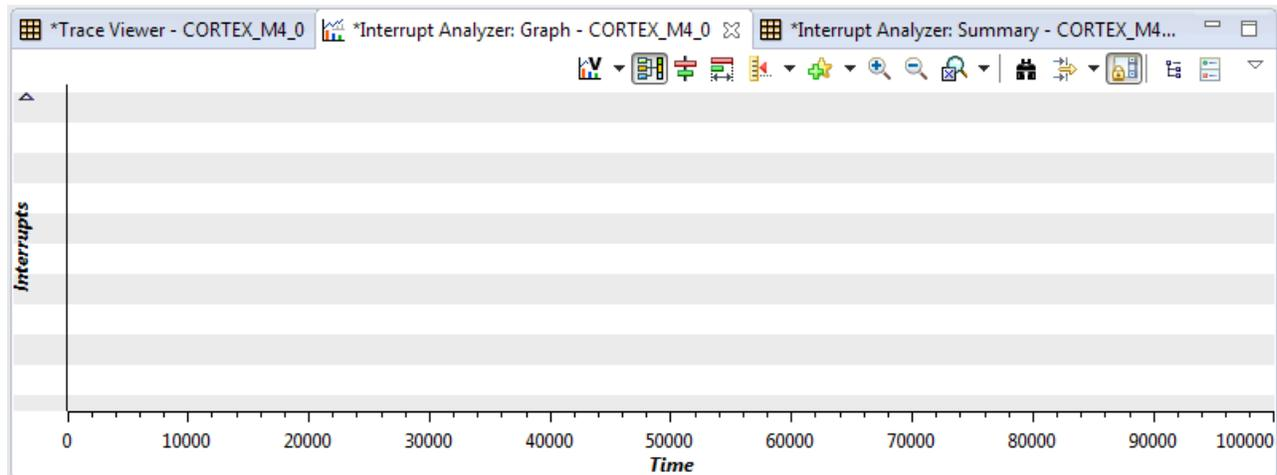

Figure 14. Interrupt Profiling Window
4. A new window appears in the bottom right corner of the debug view, as shown in Figure 14. The tab on the left traces the SWO trace output. The middle tab holds an interrupt graph; the right tab contains a detailed summary about the interrupts. You are now ready to run the use case.